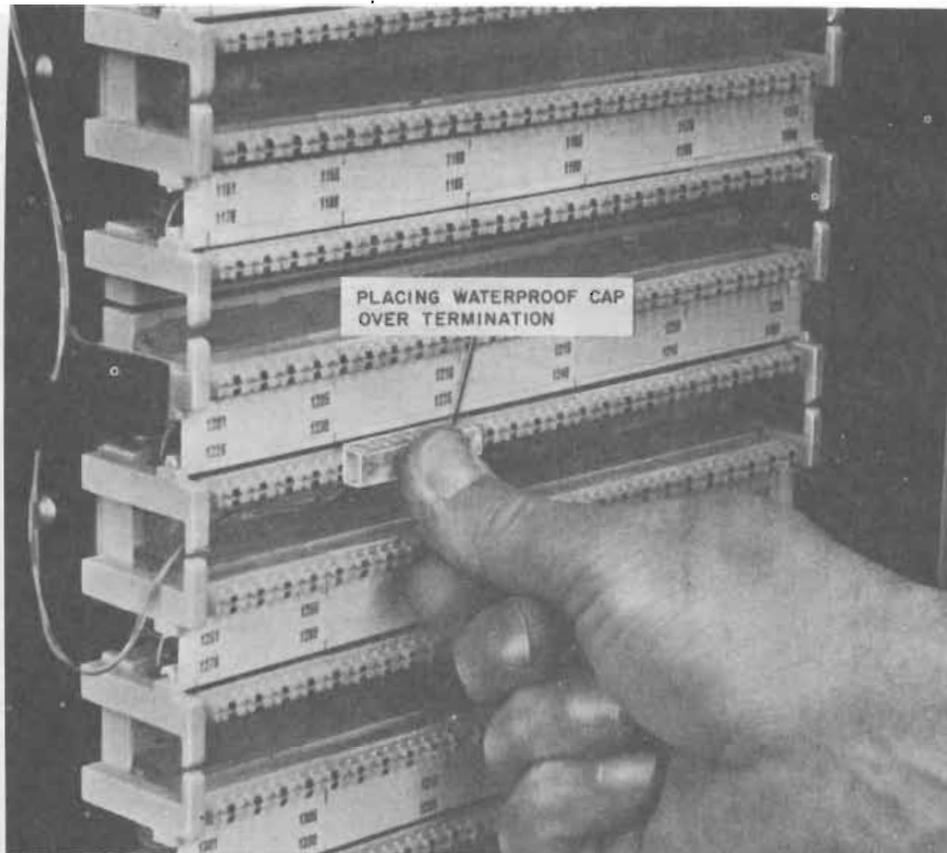

Fig. 8—Placing Waterproof Cap
- 3.05 Install new waterproof cap on the terminated cross-connecting wire (Fig. 8).